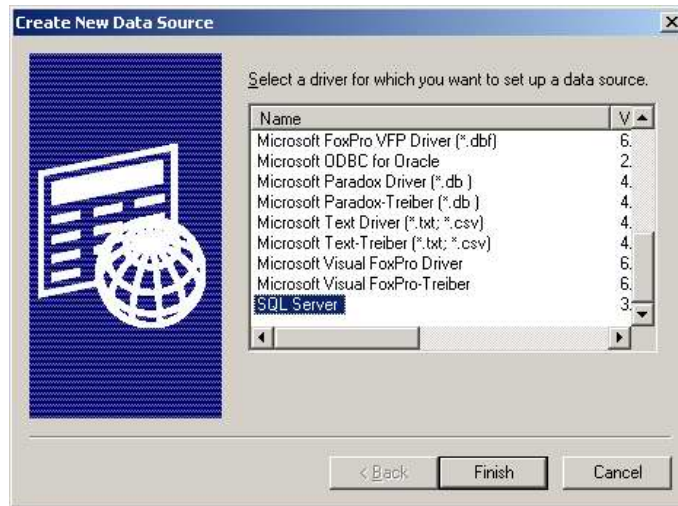

Figure C-2. New Data Source Selection Window
4. Click on the 'System DSN' tab, then click 'Add...'. The 'Create New Data Source' dialog will appear as shown in Figure C-2.